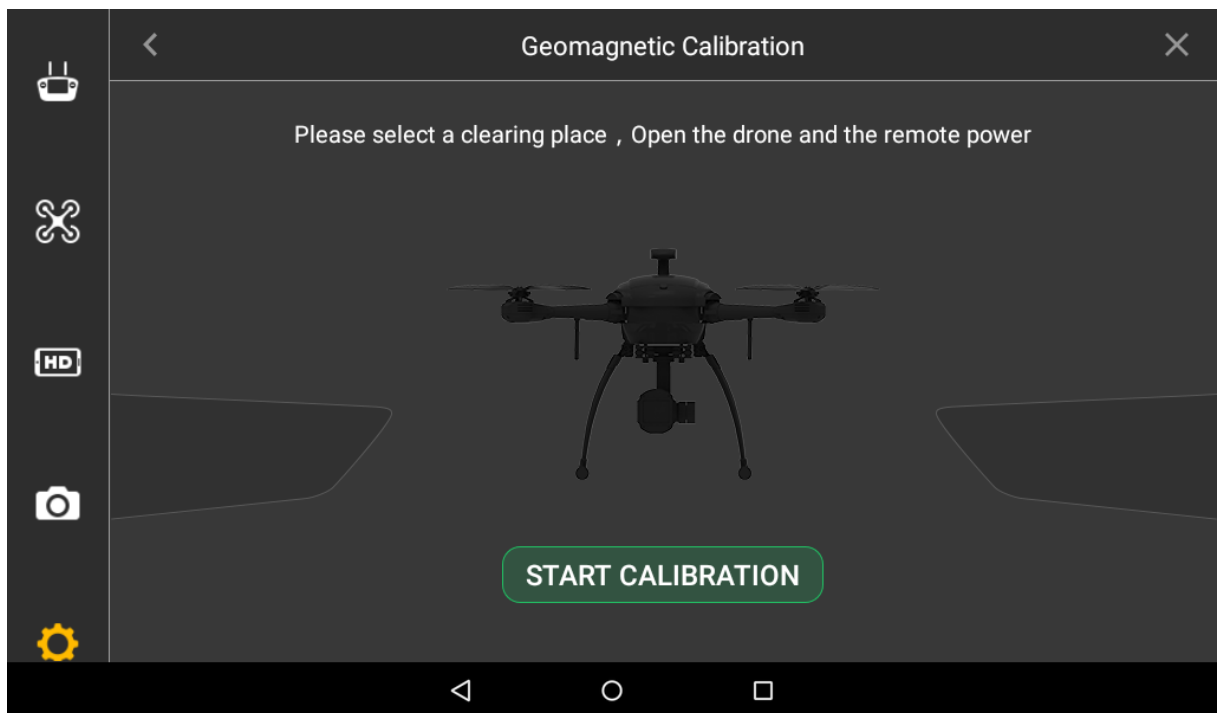

Figure 3-28
- Step 1 Select “Settings > General > Other > Geomagnetic Calibration” on the remote control. The system displays “Geomagnetic Calibration” interface, as shown in Figure 3-28.